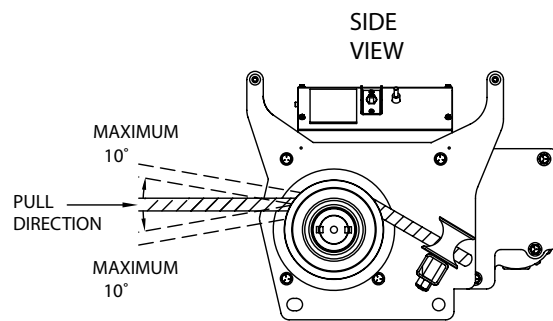

Figure 6a
**⚠ WARNING** Rope should approach capstan as shown in Figure 6a